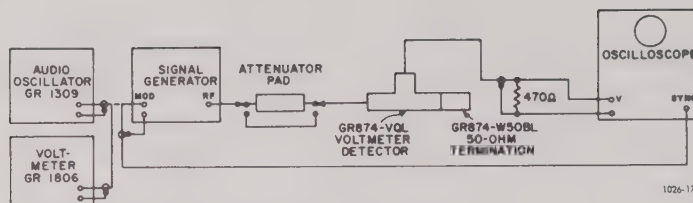

Figure 5-3. Test-equipment interconnection for modulation checks (other than pulse).
a. Connect test equipment as shown in Figure 5-3, omitting the Oscillator.
a. Connect test equipment as shown in Figure 5-3, including the oscillator but omitting the 20-dB pad. Set the 1026 controls as follows:
a. Connect test equipment as shown in Figure 5-3, including the oscillator but omitting the 20-dB pad.